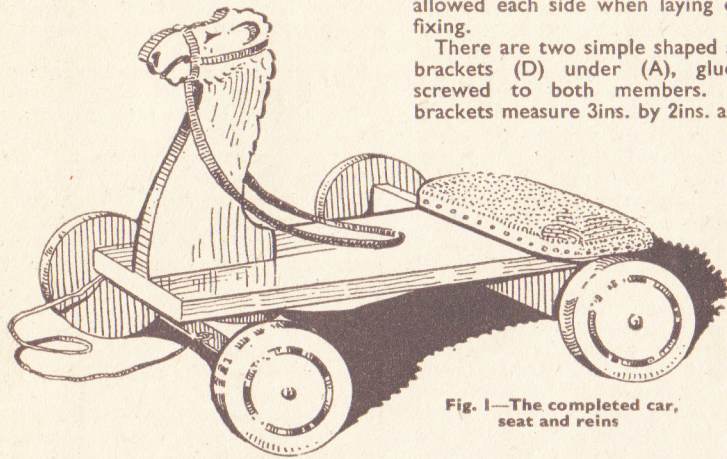

Fig. 1—The completed car, seat and reins
WE show on this page a splendid little runabout car for the quite young baby or youngster. We call it the 'Camel Car' because, as will be seen from Fig. 1, it has a realistic figure-head of the camel. The car can be used as a pull-along toy, with baby sitting on the padded seat and the big brother to pull it along.
A plan of the toy is given in Fig. 1, and some measurements are included which will help in the assembly. In Fig. 3 we see a side view showing the position of the various pieces in conjunction with the plan view. The piece (A), forming as it were the foundation piece, will first be marked and cut. It is a plain oblong measuring 16ins. by 4ins. by $\frac{1}{2}$ in. thick, and at the front end a mortise will be cut in it 2 $\frac{1}{2}$ ins. long by $\frac{1}{2}$ in. wide to take the head of the camel.